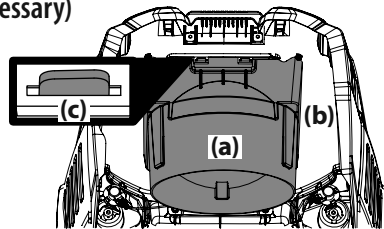

Figure 10
- Insert the rear tabs (c) as shown in Figure 10.